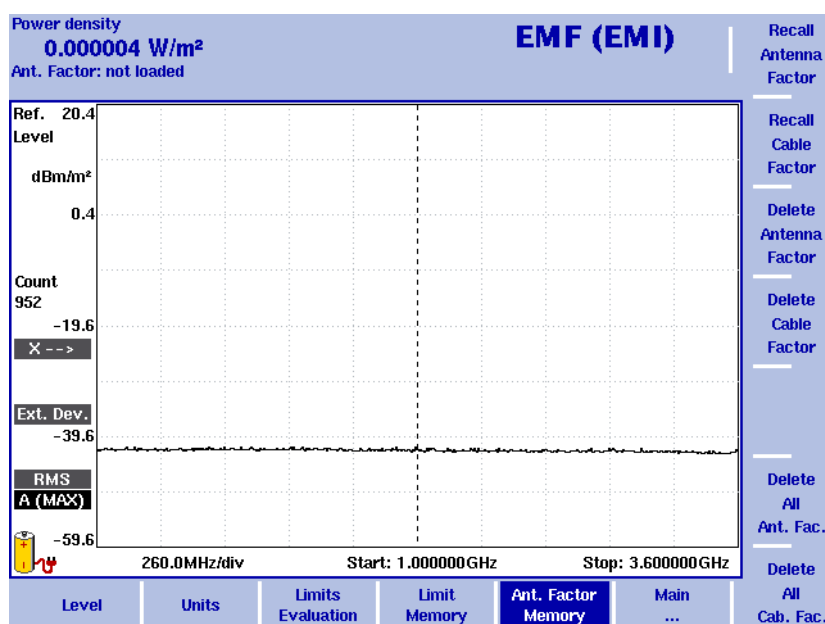

Figure 56 Antenna Factor menu
- 1 In the EMF (EMI) main menu select **Level > Ant. Factor Memory**. The Antenna Factor Memory is displayed (see Figure 56 on page 192).